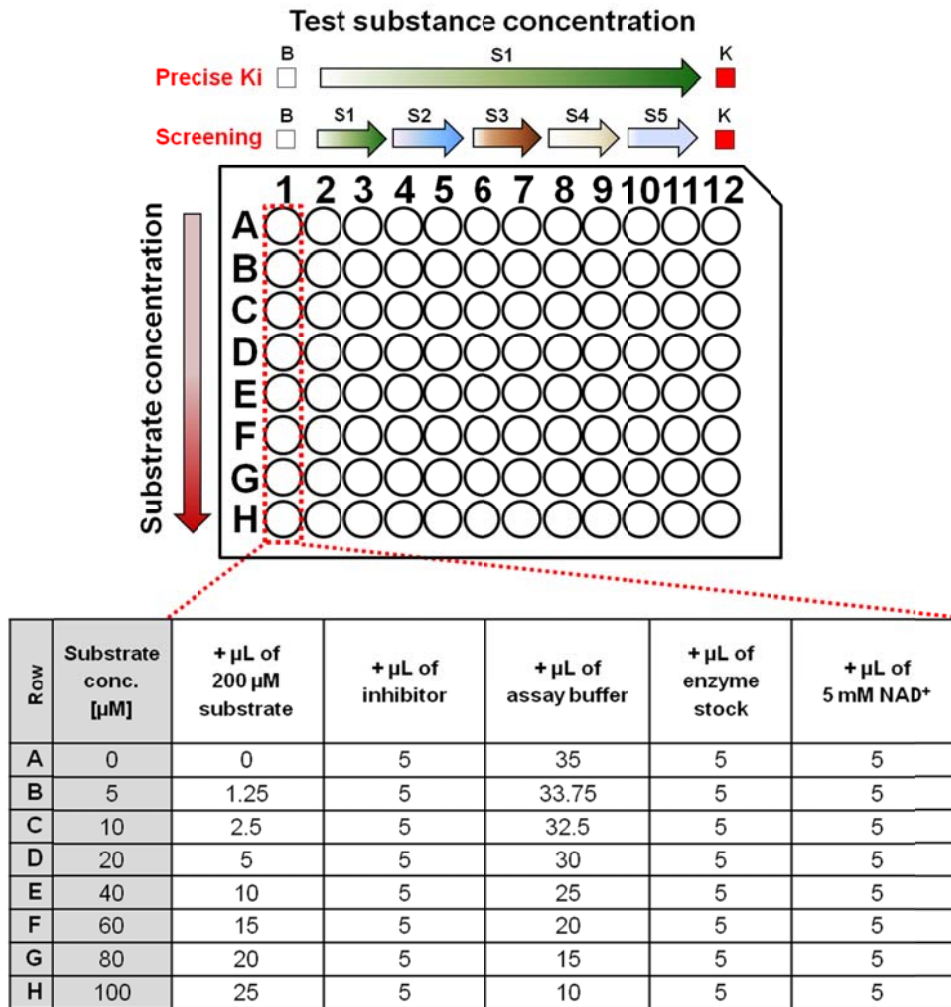

Figure 3. Example of assay mixture composition. B - blank sample (no inhibitor), S - test substance, K - positive control (NAM).
The assay can be performed as screening experiment to discover potential sirtuin modulators. In this case, the inhibitory potency of up to four compounds can be investigated in parallel on the same microtiter plate. For more precise estimation of the inhibition constant K_i , a higher number of serial dilutions of the test substance can be applied. A recommended experimental design to generate required reaction conditions is shown in Figure 3.
3. Add assay components to the microtiter plate wells using the recommended volumes and order shown in Figure 3. Enzymatic reaction will be initiated by adding NAD^+ . The total volume of each reaction mixture is 50 μl.